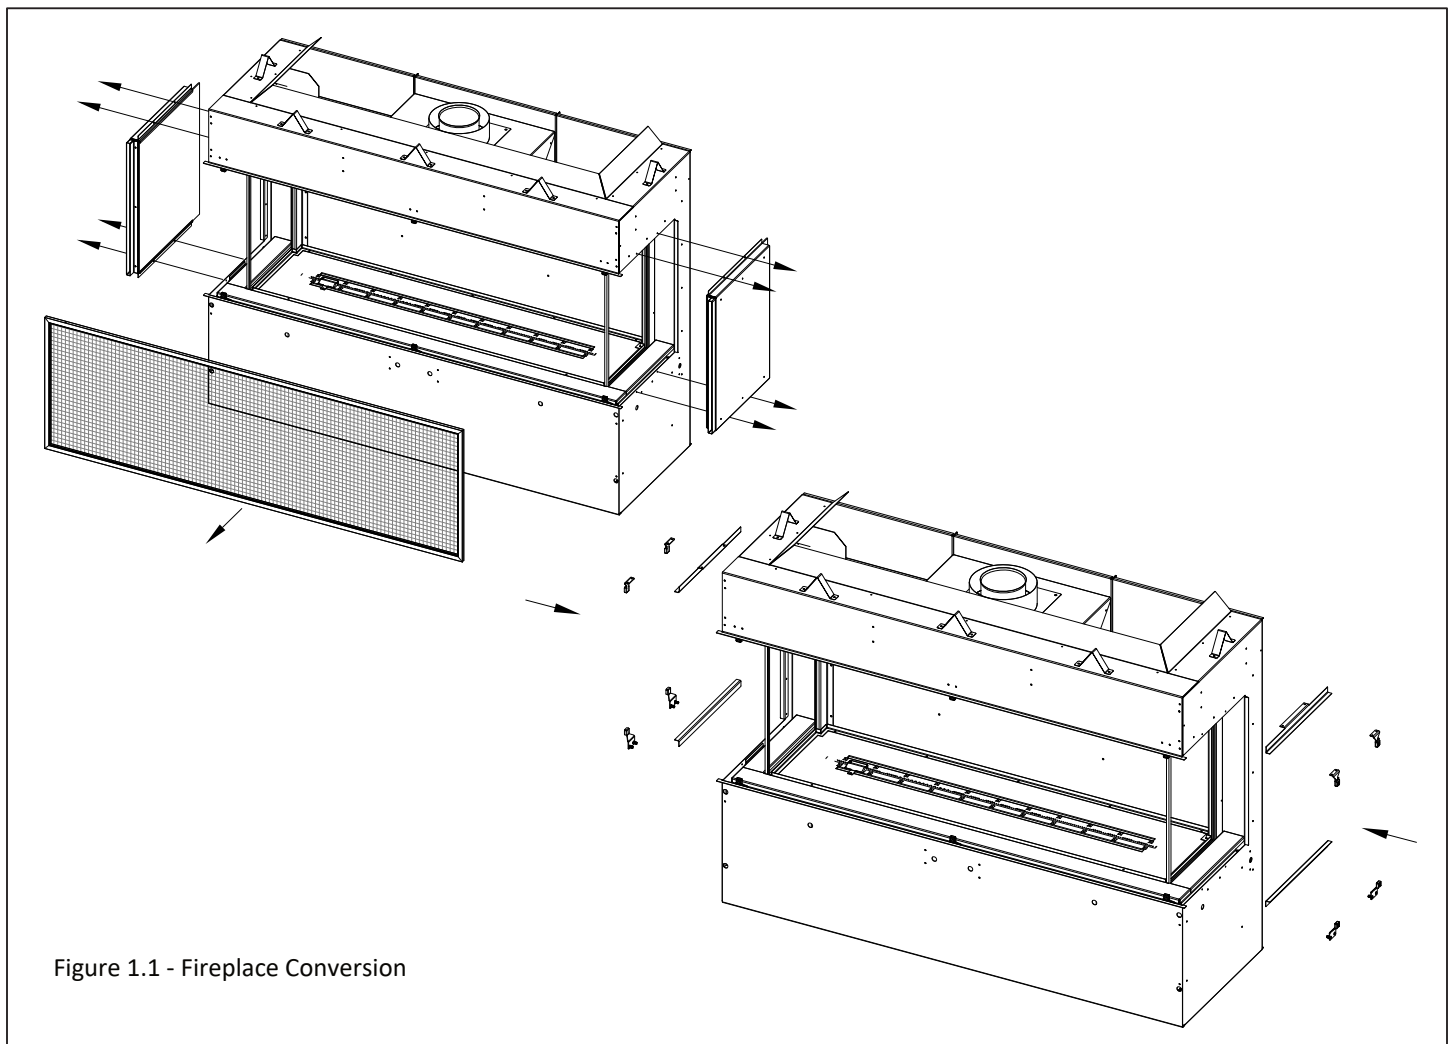

Figure 1.1 - Fireplace Conversion
Figure 1.1 shows the full conversion process for both sides of the fireplace. If you want a corner fireplace then only remove the block off plate for the side of the fireplace you want visible and perform the conversion to that side.
1. Remove and discard the nailing flanges and side block off plates for one or both sides depending on your installation choice. See Figure 1.1. Save these screws for Step 2.